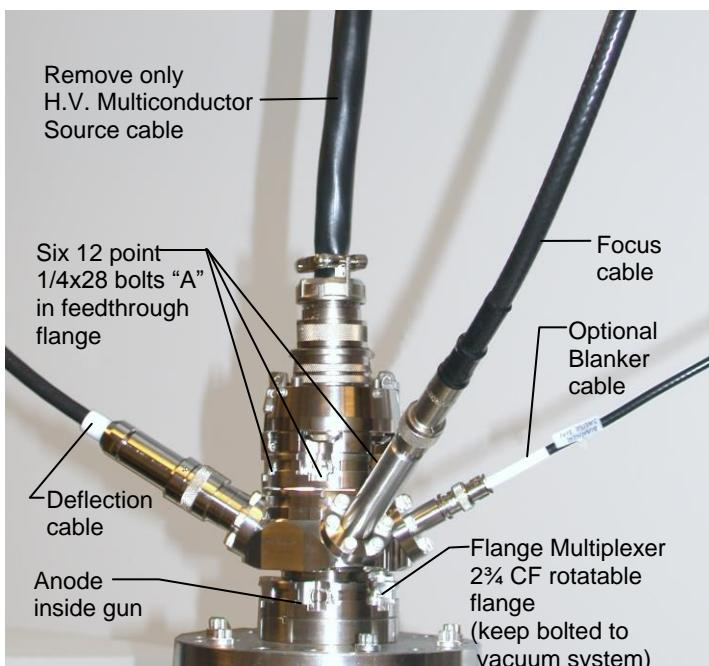

Fig. 6.5-1 EGG-3101 Electron Gun before disassembly
12. To remove the firing unit feedthrough assembly: (Figs. 6.5-1 and 6.5-3).
- a. Using a 12 point socket wrench, remove the six 1/4x28 bolts ("A" in Fig. 6.5-1) in the 2 3/4 CF feedthrough flange.
16. With a new copper gasket in place, carefully insert the firing unit feedthrough assembly straight into the Flange Multiplexer, in the orientation noted during disassembly. Replace and tighten the six 12 point bolts ("A" in Fig. 6.5-1).